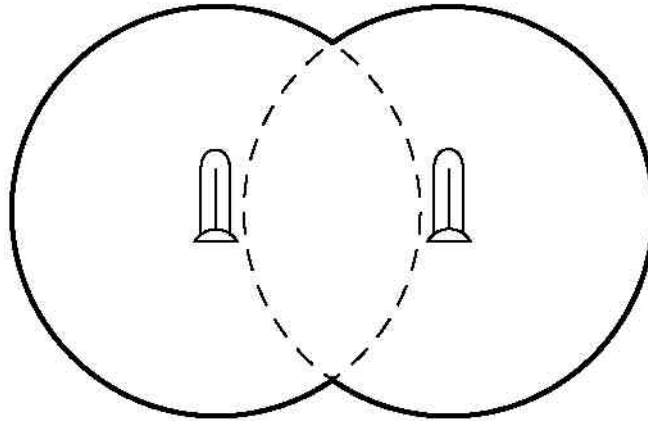

Figure 3-10. LAAD Overlapping Fires.
- 1. **Overlapping Fires.** Overlapping fires occur when individual air defense units' engagement zones overlap. Overlapping fires reduce the possibility of enemy aircraft slipping through the MAGTF's air defense without being engaged by at least one air defense unit (see fig. 3-10).